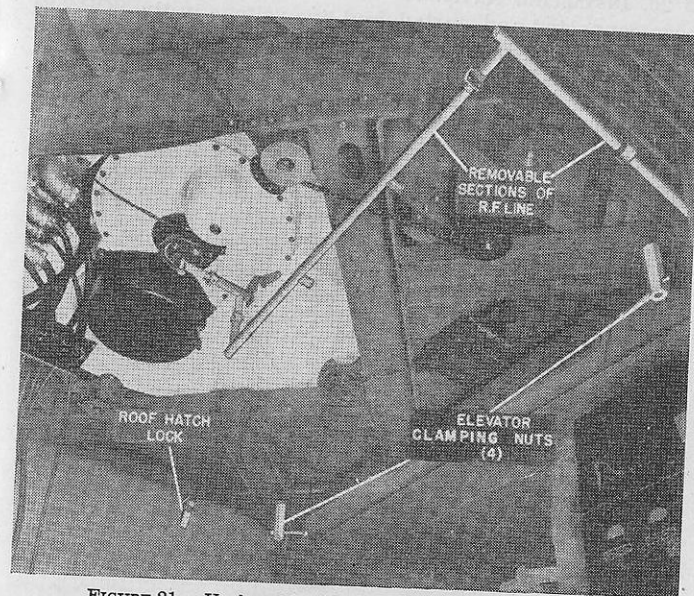

FIGURE 21.—Under side of elevator showing r. f. lines.
h. Assemble the four clamping nut assemblies to the studs projecting through the platform at the four corners as shown in figure 21. Tighten the four assemblies successively by hand, approximately one turn at a time, until the
b. Remove the lines from their rack and put them in place. (See fig. 21.)